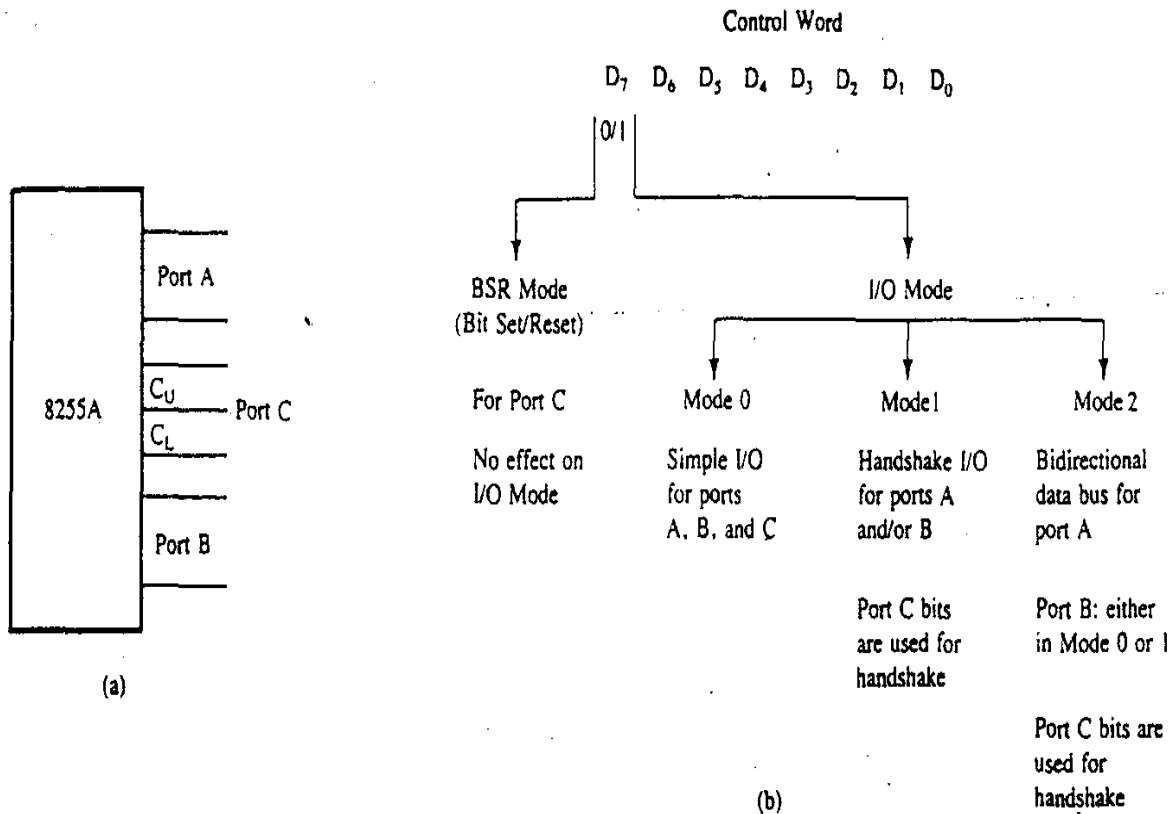

FIGURE 4.1: 8255A I/O Ports (a) and Their Modes (b)
The 8255A has 24 I/O pins that can be grouped primarily in two 8-bit parallel ports: A and B, with the remaining eight bits as port C. The eight bits of port C can be used as individual bits or be grouped in two 4-bit ports: CUPPER (CU) and CLOWER (CL), as in Figure 4.1(a). The functions of these ports are defined by writing a control word in the control register.
Figure 4.1(b) shows all the functions of the 8255A, classified according to two modes: the Bit Set/Reset (BSR) mode and the I/O mode. The BSR mode is used to set or reset the bits in port C. The I/O mode is further divided into three modes: Mode 0, Mode 1, and Mode 2. In Mode 0, all ports function as simple I/O ports. Mode 1 is a handshake mode whereby ports A and/or B use bits from port C as handshake signals. In the handshake mode, two type of I/O data transfer can be implemented: status check and interrupt. In Mode 2, port A can be set up for bidirectional data transfer using handshake signals from port C, and port B can be set up either in Mode 0 or Mode 1.
Bit D7 of the control register specifies either the I/O function or the Bit Set/Reset function, as classified in Figure 4.1(b). If bit D7 = 1, bits D6—D0 determine I/O functions in various modes, as shown in Figure 4.4. If bit D7 = 0, port C operates in the Bit Set/Reset (BSR) mode. The BSR control word does not affect the functions of ports A and B (the BSR mode will be described later).